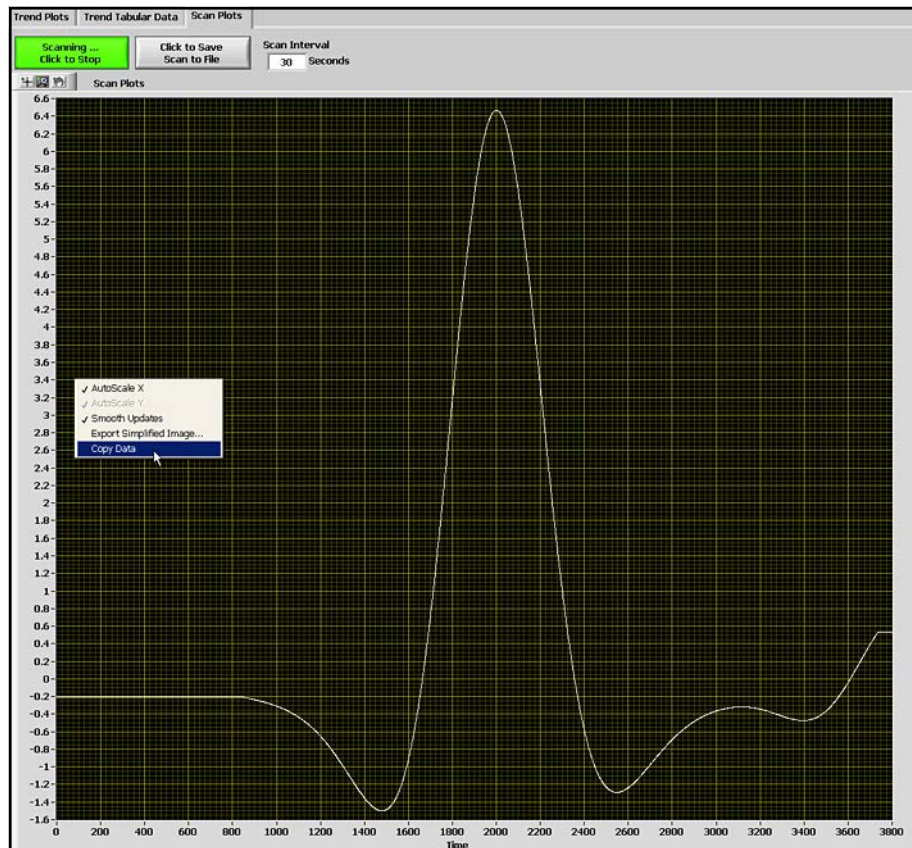
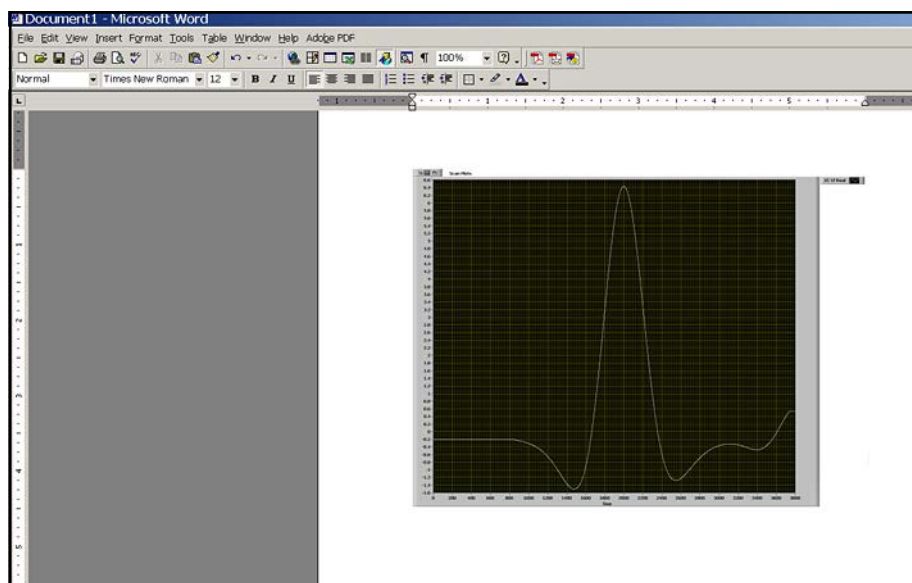

Figure 77: Copying a Trend Plot
Figure 78: Pasting a Trend Plot
4. Copying and Pasting a Trend Plot can be done from **AuroraView** (see *Figure 77* and *Figure 78* below) One way to do this quickly is to simply right click over the data area and choose **Copy**. In another application, like Microsoft Word, simply paste.